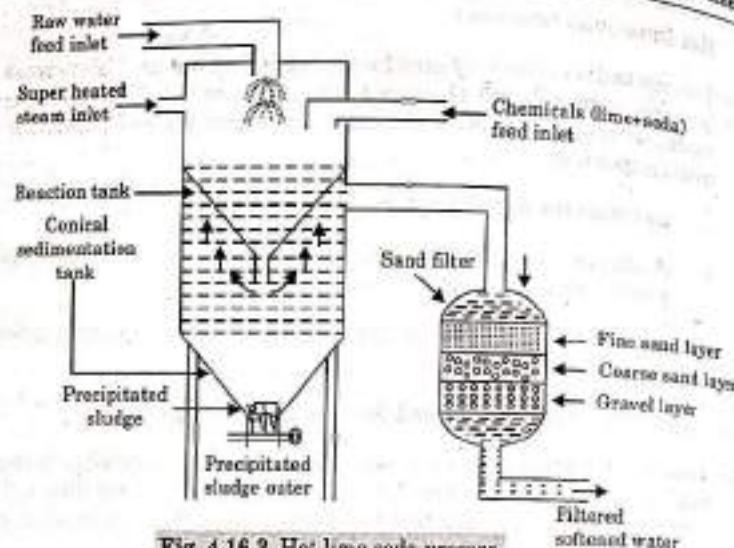

Fig. 4.16.3. Hot lime soda process.
- Now a days settling tank is combined with reaction tank as shown in Fig. 4.16.3.